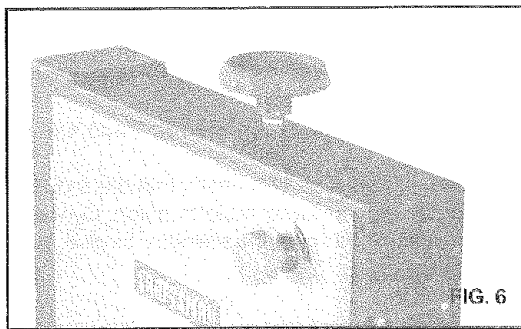

FIG. 6
f. Place the blade tension knob on to the blade tensioner (See FIG.6)